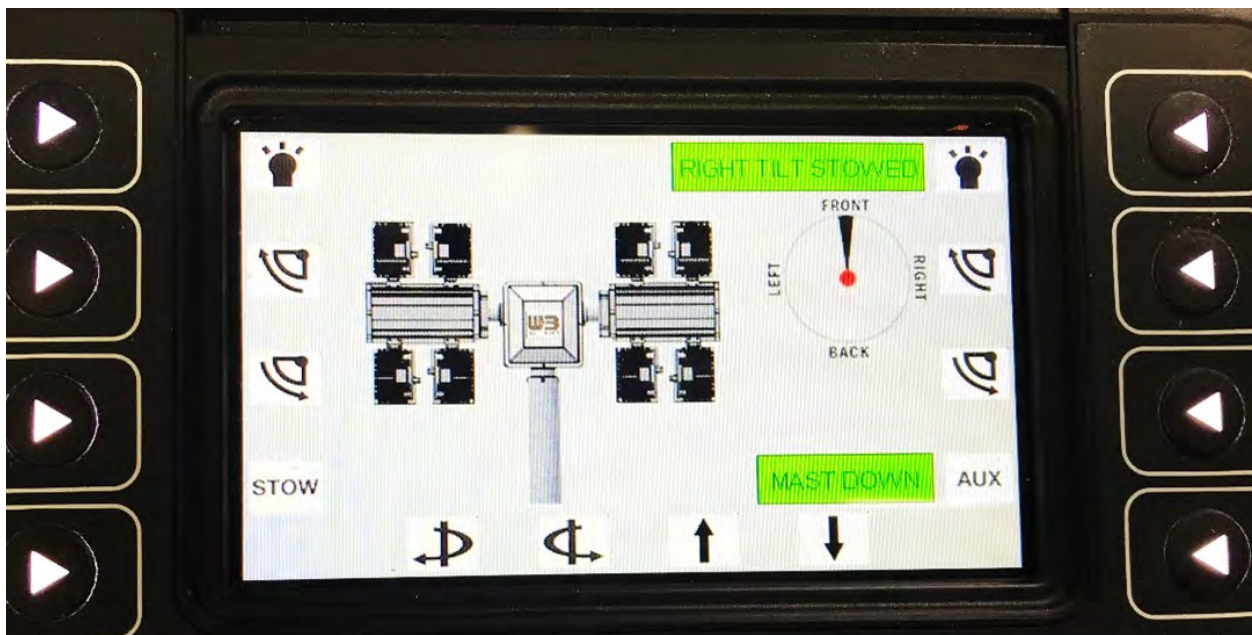

Figure 7-3 RCP/Mast Control Screen
To adjust the RCP parameters, the system will need to be in the RCP/Mast Control screen with the depiction of the RCP visible. See Figure 7-3. To get to this screen, the mast needs to be tilted to the 90° position. Once the mast is at 90°, this screen automatically comes on.
4. The parameter labeled "POSITION" is the current position of the actuator. Press either the "UP" or "DOWN" button to tilt the mast. The parameter labeled "0" is the stowed position for the mast. The parameter labeled "90" is the extended position for the mast. When the mast is at the 90 degree position, the system will go to the RCP/Mast Control screen (Figure 7-3).
1. Make sure that the RCP/Mast Control screen (Figure 7-3) is active.
2. To accurately position the Mast Down Limit Switch height, make sure that the RCP/Mast Control screen (Figure 7-3) is active.